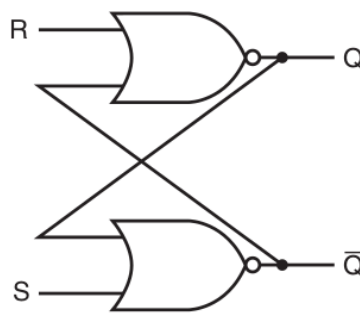

Figure 3: A Set-Reset latch.
Latches are unlocked memory elements. Figure 3 shows a Set-Reset(SR) latch using two NOR gates. Q is the main output and Q bar is the complement of Q. When Q is true, if S is asserted then Q will be asserted. When R is asserted, then Q bar will be asserted.